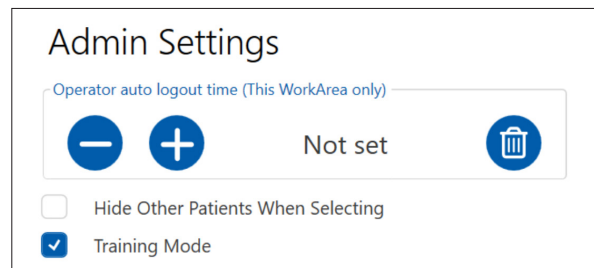

Figure 5-19 Admin Settings – Training Mode
5. Tick Training Mode. See Figure 5-19